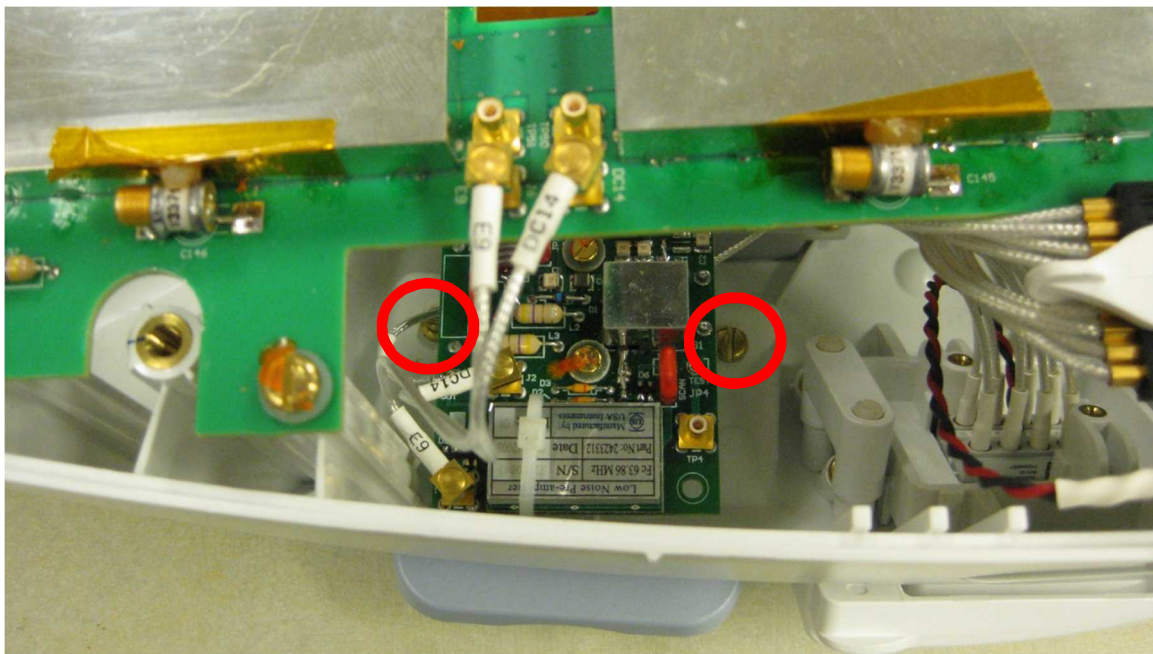

Figure 3.3
- 3.4. Locate and remove the 2 screws connecting the posterior latch assembly and the former as seen in Figure 3.3 using the 3/16x4 Screw Driver.